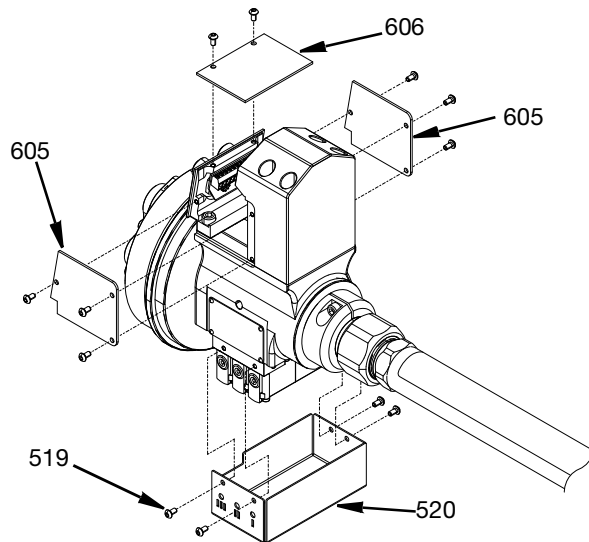

FIG. 12
1. To access SST Switch 3D gun internal parts, remove side covers (605), top cover (606) and outer cover (520), by removing screws (519) with a hex key wrench. See FIG. 12.